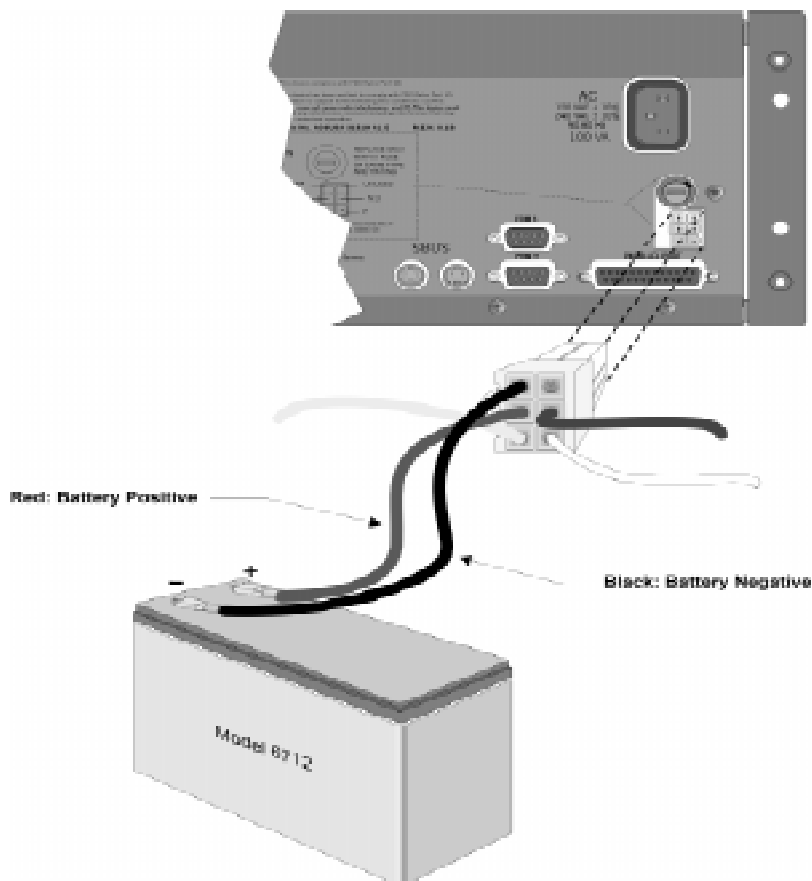

Figure 3-14 Battery Connections
4. Disconnect the backup battery. (See Figure 3-14.)
11. Reconnect the back-up battery. (See Figure 3-14.)
1. Plug the Battery/Relay wiring harness onto the connector on the back of the 9800 receiver. (See Figure 3-14.)